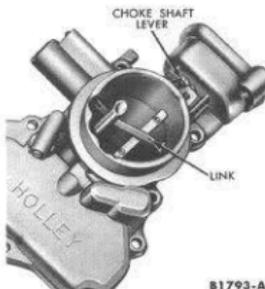

FIG. 26—Choke Shaft Lever and Link Position
1. Install the choke shaft. Position the operating rod lever and piston link, as shown in Fig. 26. **Do not install the lever retaining screw at this time.**